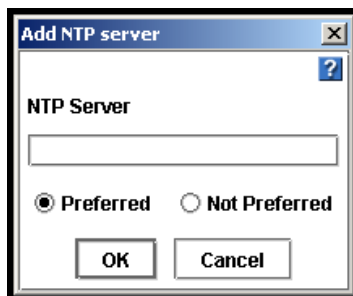

Figure 98. Adding an NTP Server
1. Select On in the NTP Mode area. The Add NTP Server dialog opens, shown in Figure 98.